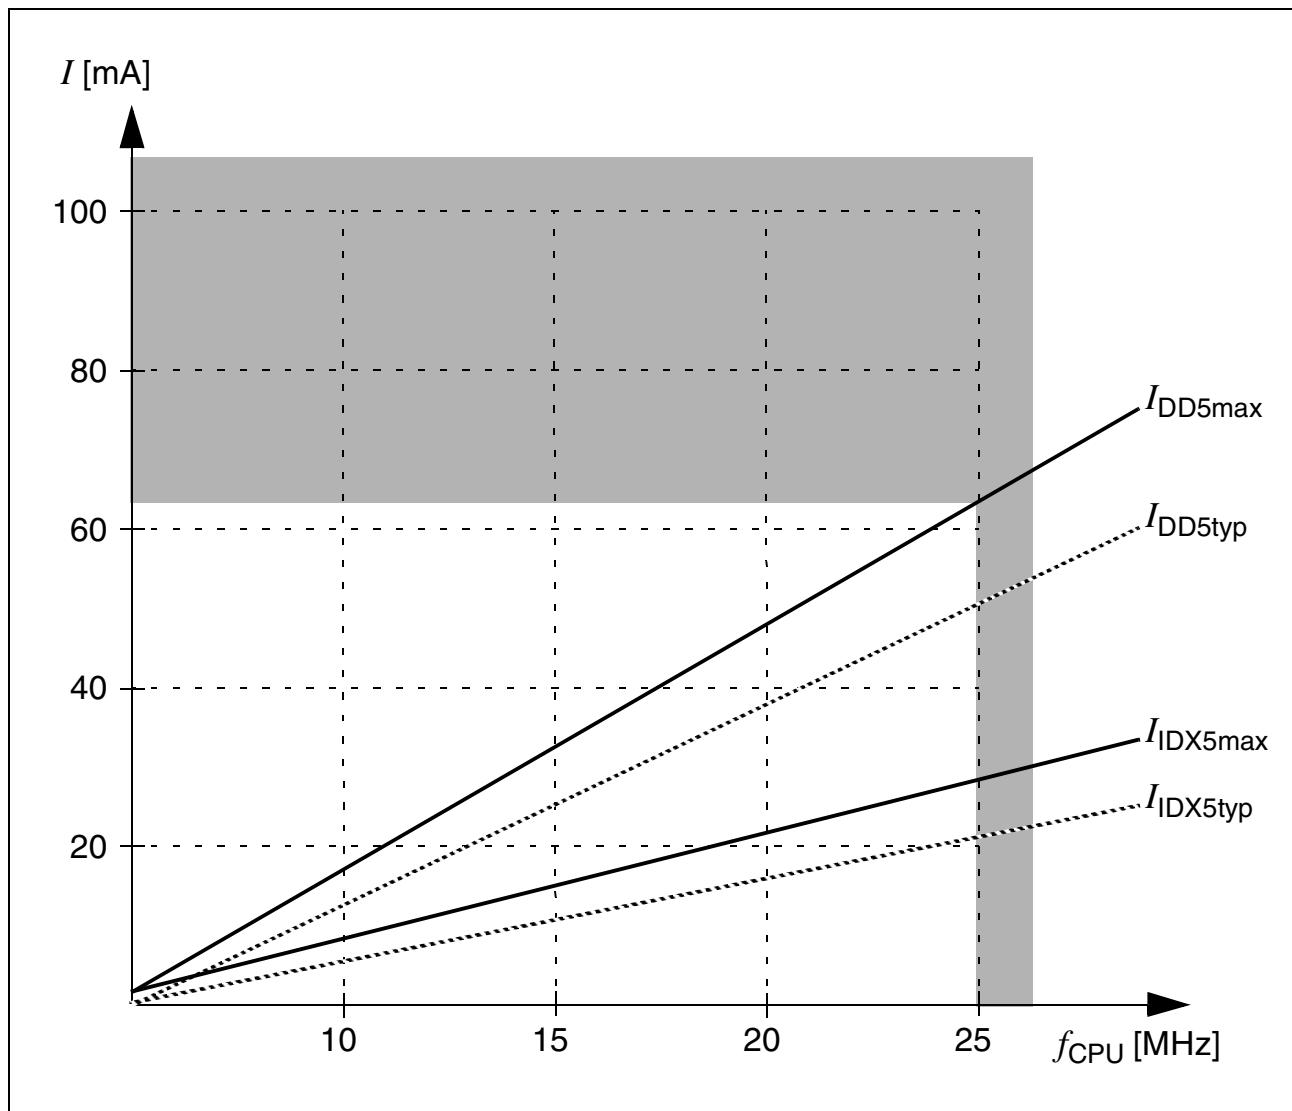

Figure 9 Supply/Idle Current as a Function of Operating Frequency for ROM Derivatives
- 1) The supply current is a function of the operating frequency. This dependency is illustrated in Figure 9. These parameters are tested at V_{DDmax} and maximum CPU clock with all outputs disconnected and all inputs at V_{IL} or V_{IH} .